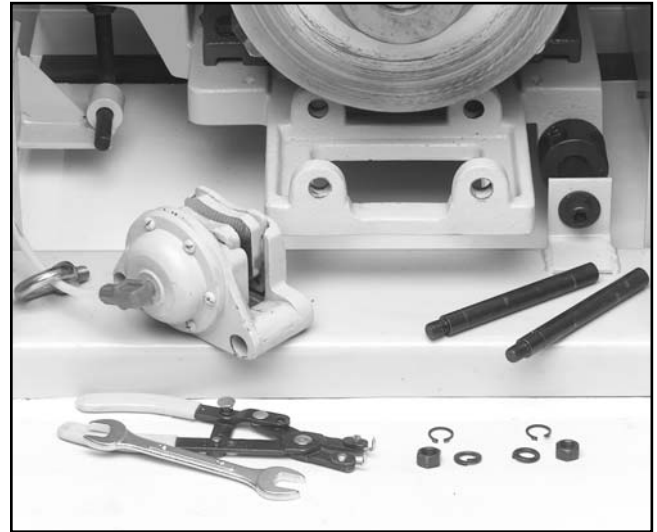

Figure 33. Removing caliper to replace brake pads.
3. Pull the mounting pins out of the caliper bracket and remove the air line from the caliper. The caliper should now be able to be removed as in **Figure 33**.